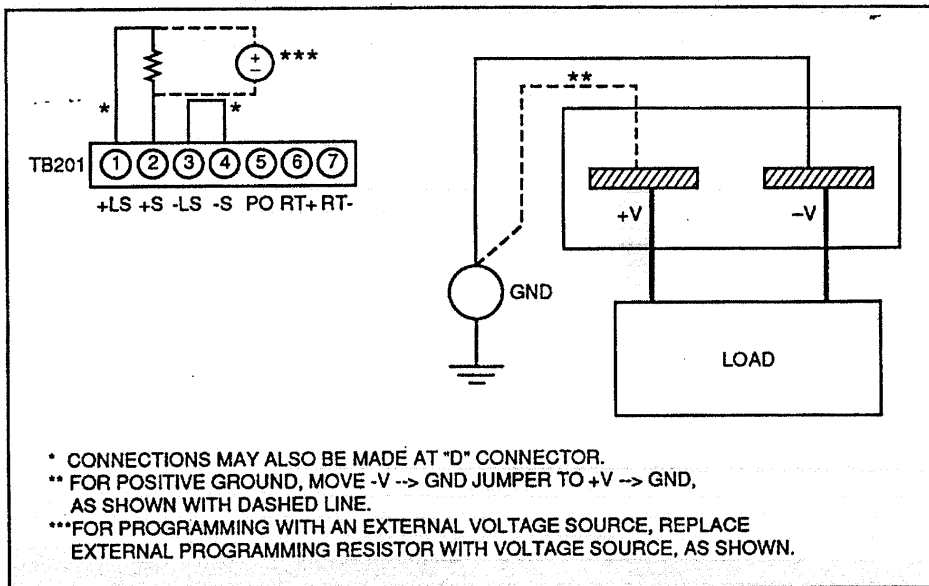

FIGURE 4: REMOTE VOLTAGE CONTROL WITH AN EXTERNAL PROGRAMMING RESISTOR OR VOLTAGE SOURCE (LOCAL SENSING)
Remote Voltage Programming via external resistor,	1000 ohms per volt for resistor connected between pins 1 and 2 on TB201 (see Figs. 4 and 5).
Remote Voltage Programming via external voltage source,	Volt per volt for voltage source connected between pins 1 and 2 on TB201 (see Figs. 4 and 5).
2. With the power supply unloaded, set V_o to the OV threshold desired. This may require remote programming (see Figs. 4 and 5).